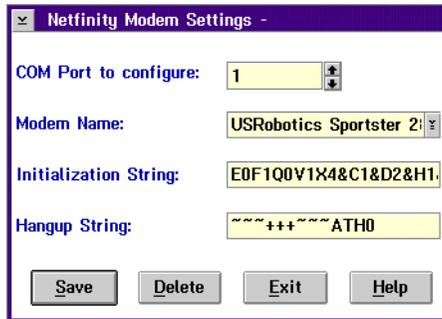

Figure 166. Serial Control Modem Settings
7. Configure your modem to a particular port by selecting **Modem Settings**. You will see a window like that in Figure 166: